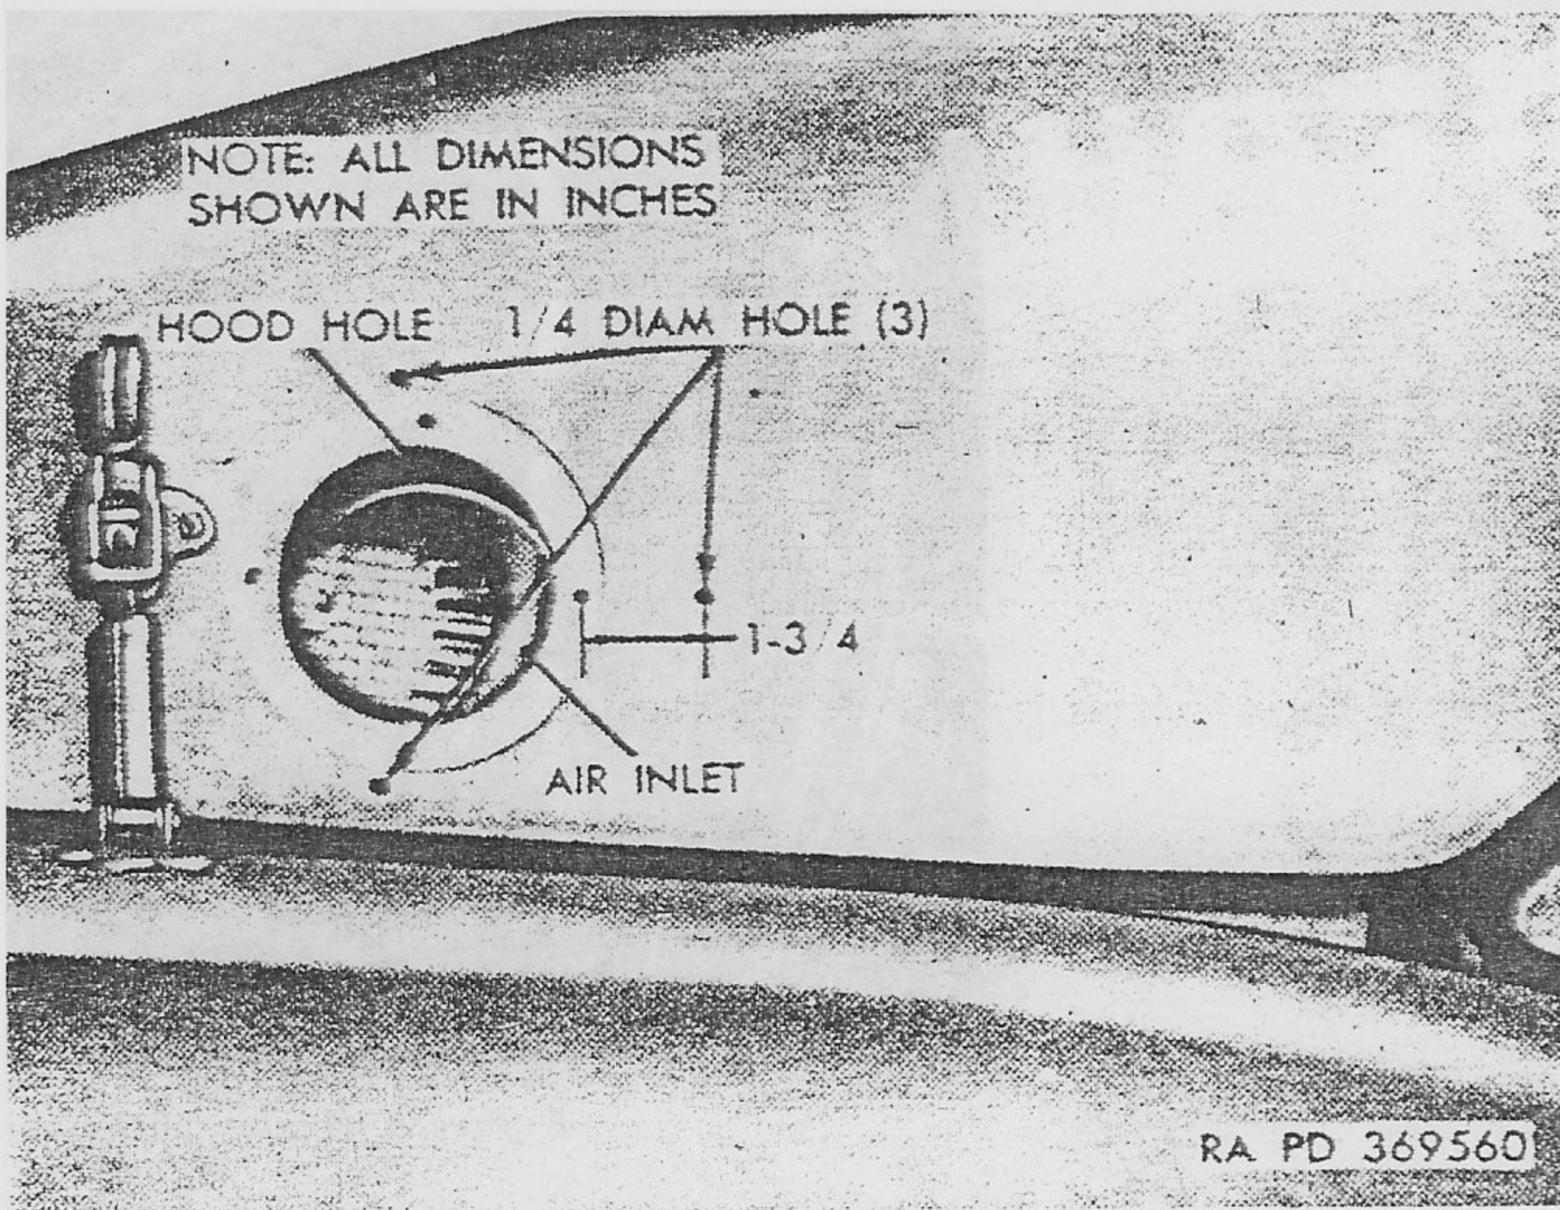
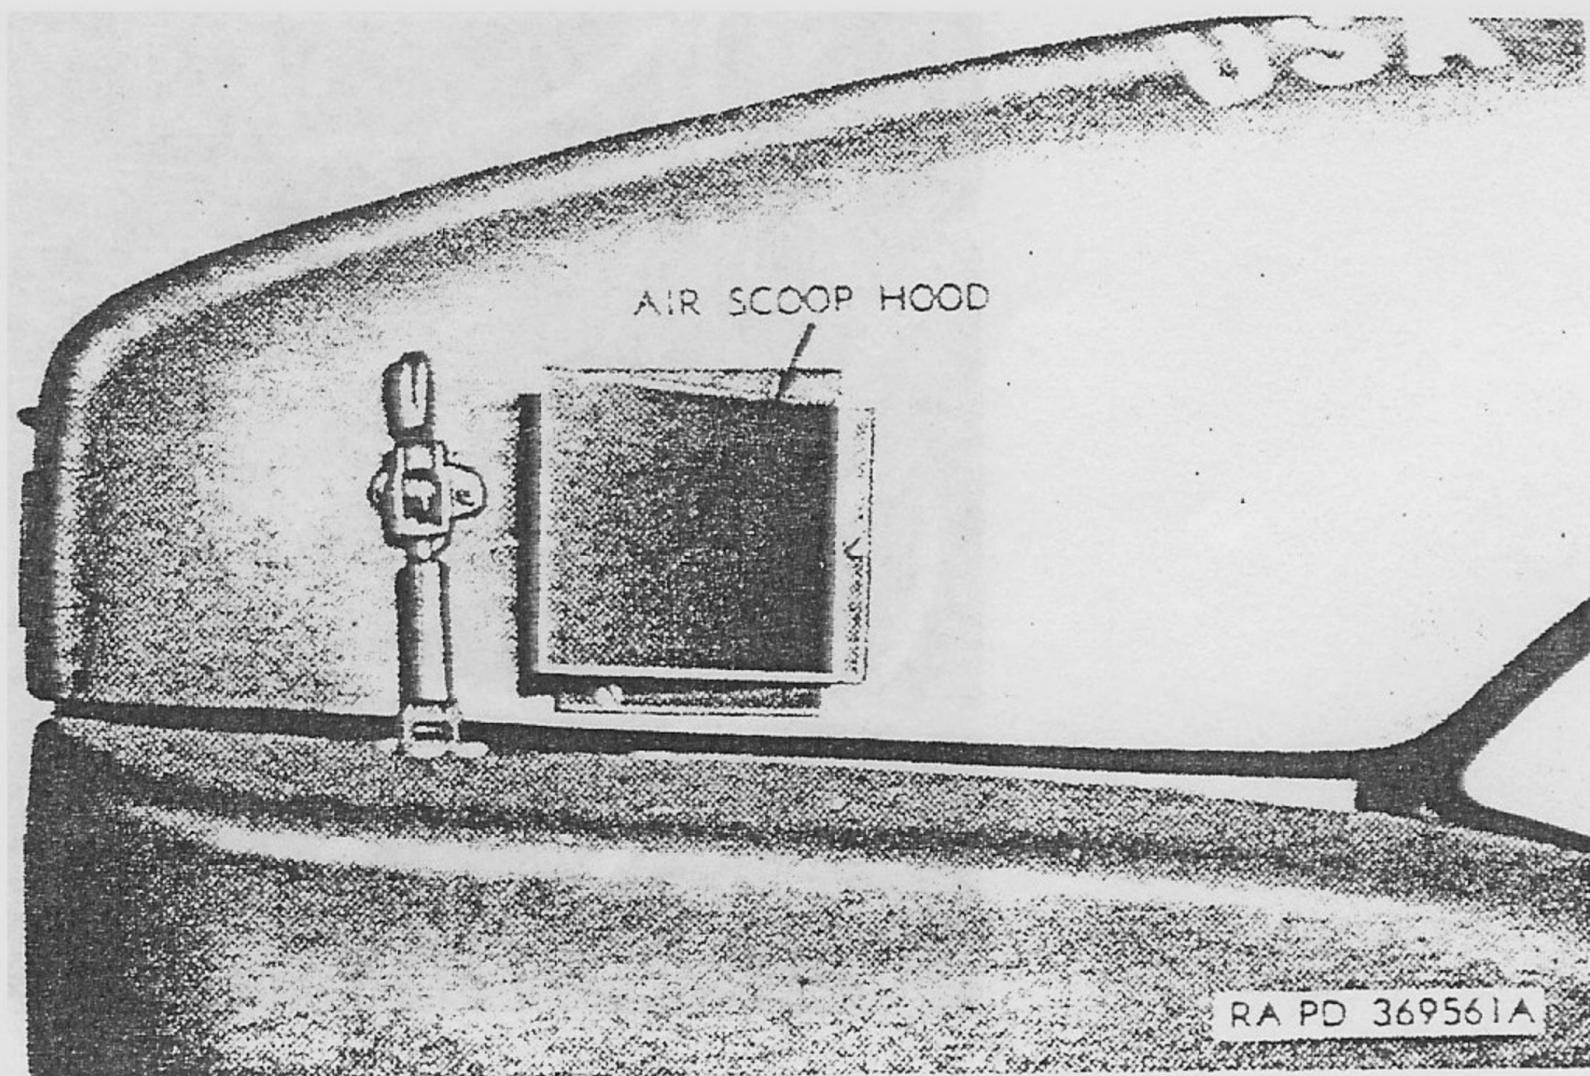

Figure 6. Hood heater cover removed and air scoop hood holes drilled.
Figure 7. Air scoop hood installed.
e. Lower vehicle hood and remove hood heater cover and four cross-recess screws, nuts, and lockwashers. Secure hood and note if heater air inlet and hood hole (fig. 6) aline. Mark and drill a $\frac{1}{4}$ -inch hole $1\frac{3}{4}$ inches back from right screw hole as shown in figure 6. Use air scoop hood (N, fig. 1) as a template over drilled hole and mark and drill the two remaining holes as shown in figure 6. Install air scoop hood with three of the cross-recess screws, nuts, and lockwashers (removed from hood heater cover above) as shown in figure 7.